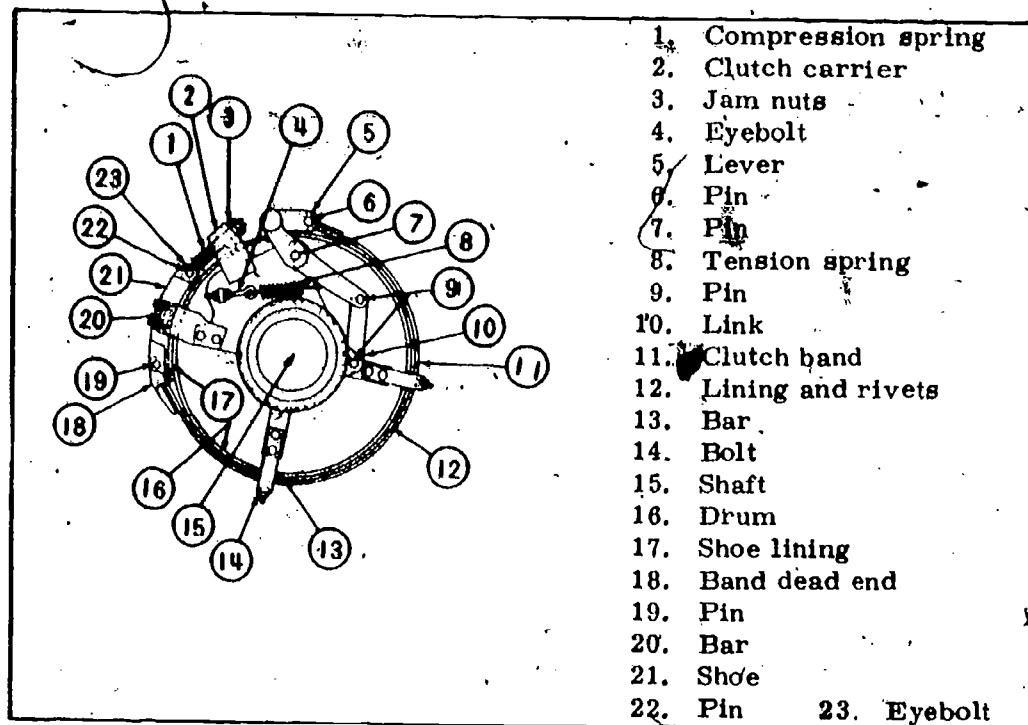

Fig 3-7. External-contracting clutch.
3. External-contracting. This type of clutch (fig 3-7) has a band with riveted lining on the inside that fits around a drum or other component. The band contracts bringing the two friction surfaces into contact. Either the clutch or the drum can be the driven member.